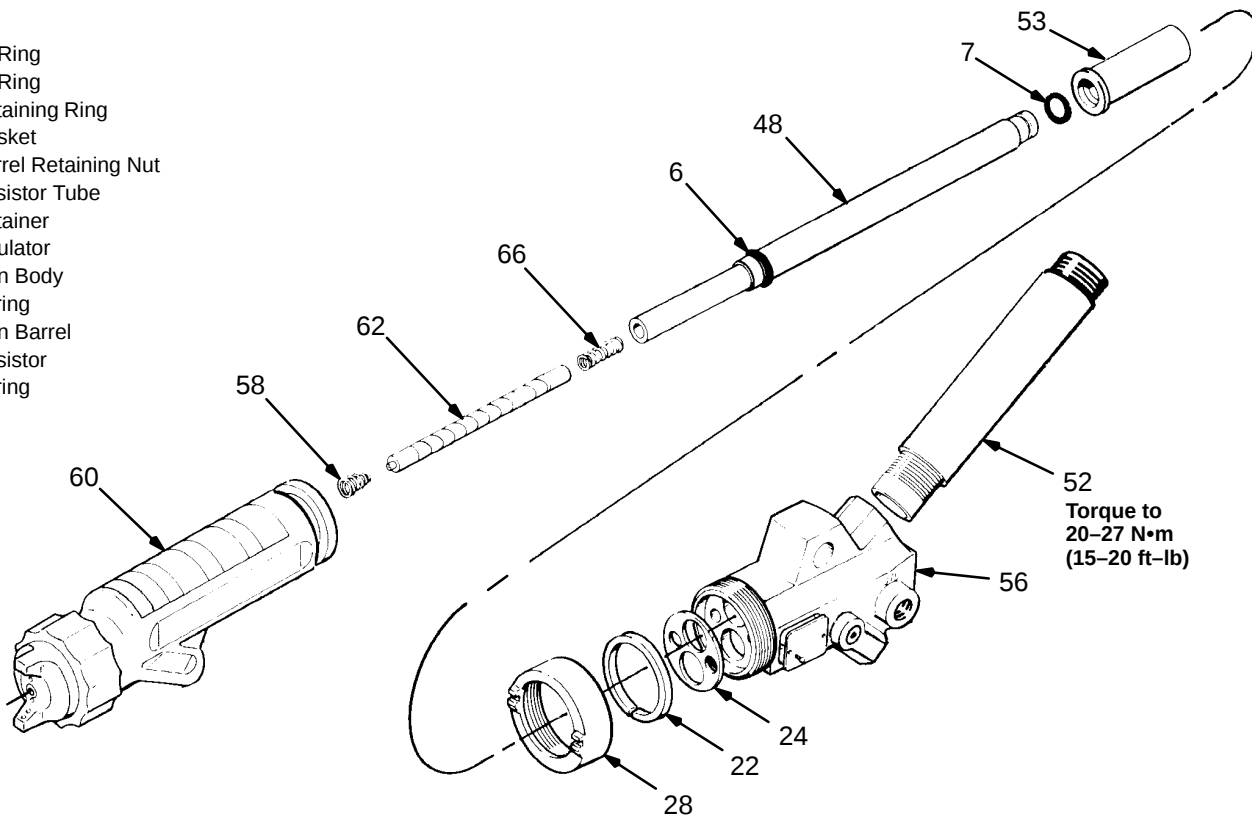

Fig 13
2. Remove the gasket (24) from the gun barrel. See Fig 13.
3. Remove the spring (58) and o-rings (6). Inspect for damage and replace if necessary.
7. Install the o-ring (7). See Fig 13.
8. Install the insulator (53) over the end of the resistor tube (48).